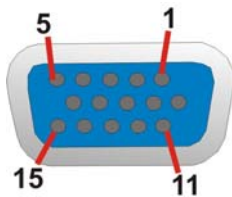

Figure 3-32: VGA Connector
- CN Pinouts:** See **Figure 3-32** and **Table 3-7**